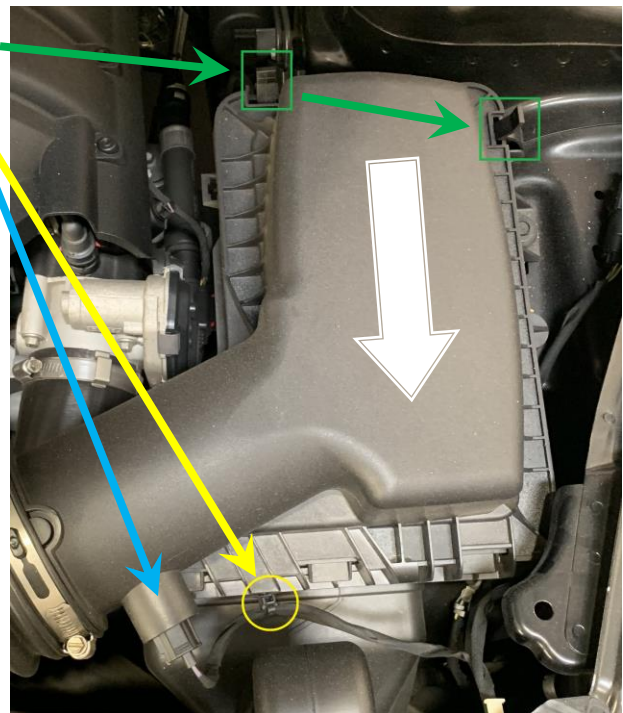

Fig. 2
1. Release 2 plastic tabs by pushing outward. See Fig. 2
3. Squeeze IAT Connector and pull to release. See Fig. 2
4. Slide Airbox Forward to release from base. See Fig. 2